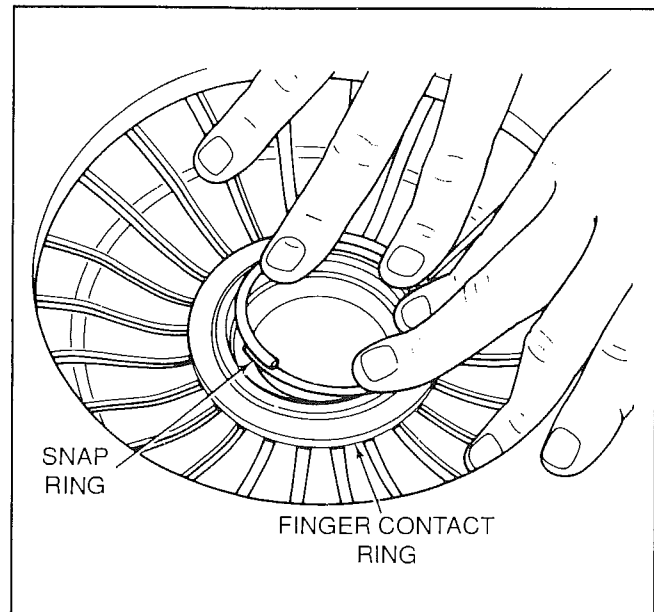

Figure 10-4. Snap Ring Installation
9. Place the round wire snap ring on the exposed end of the coupler pilot (Fig. 10-4).